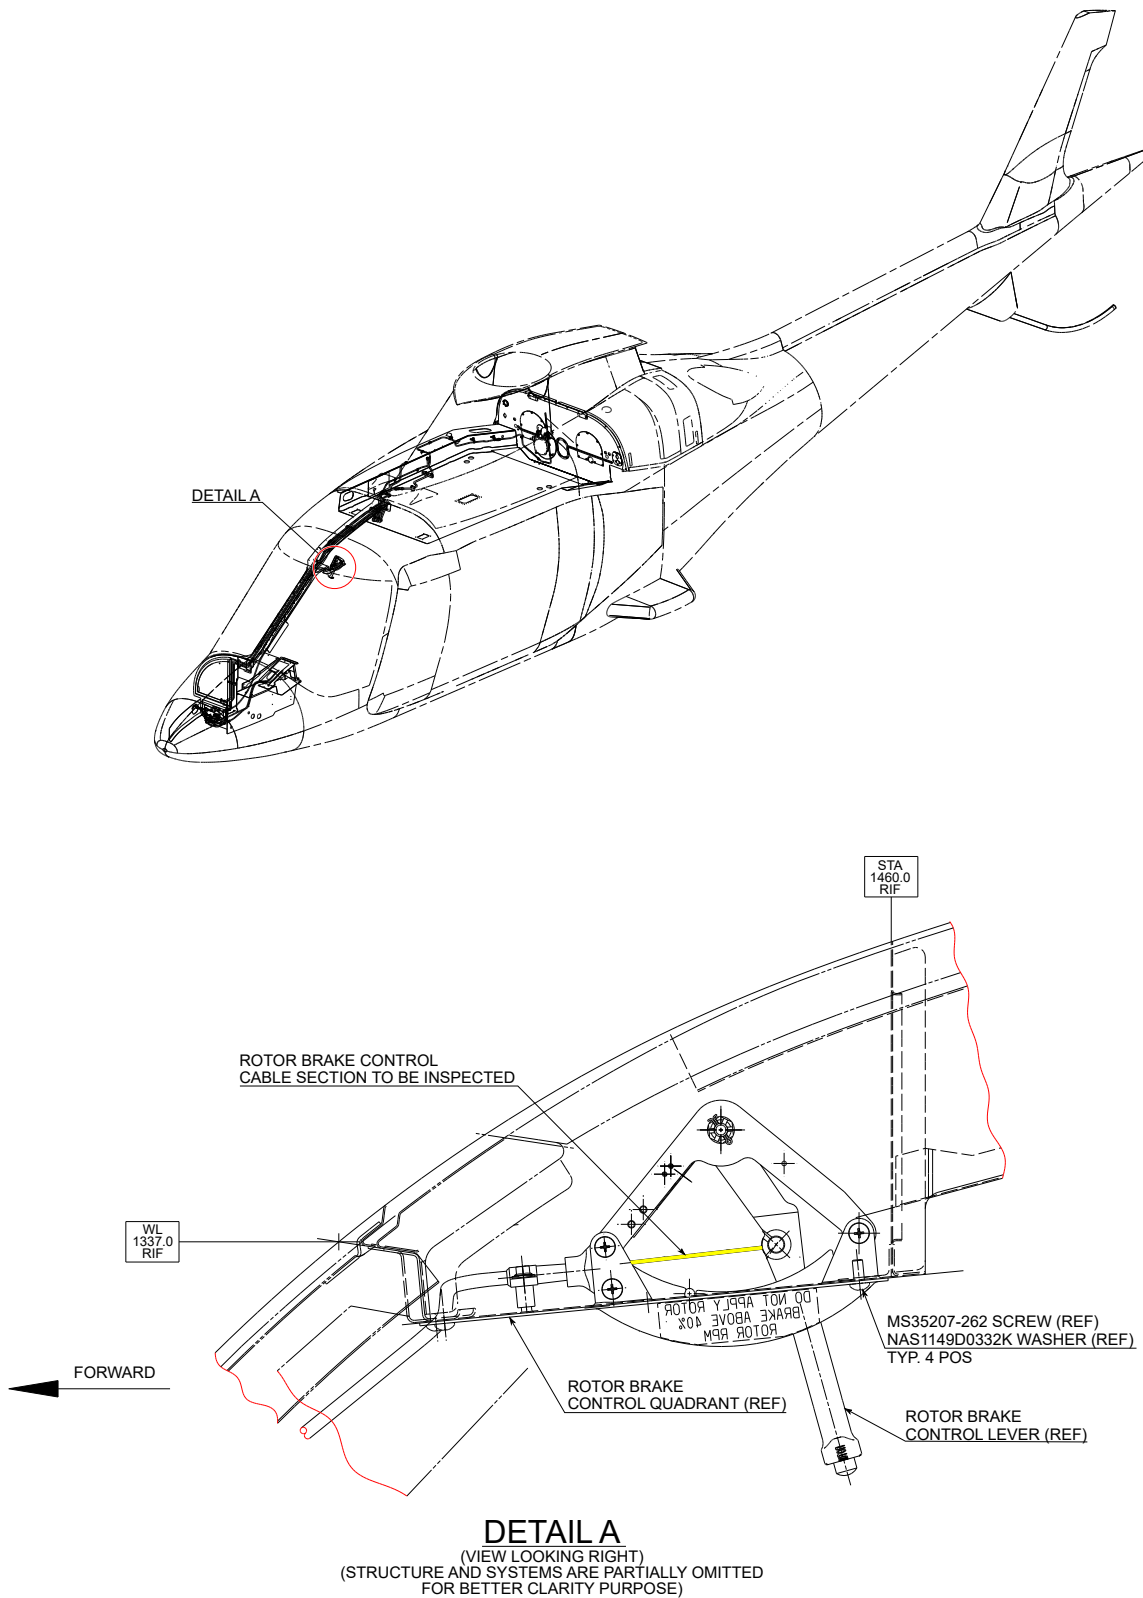

Figure 1
2. With reference to Figure 1, gain access to the cockpit and move the rotor brake control lever fully aft (rotor brake applied).
3. With reference to Figure 1 Detail A, remove n.4 screws P/N MS35207-262 and n.4 washers P/N NAS1149D0332K that attach the rotor brake control quadrant to the structure and lower the control quadrant as far as the electrical wires will permit. Retain all the hardware for later reuse.
- 4.1 With reference to Figure 1 Detail A, carefully inspect the highlighted section of the rotor brake control cable with particular attention to the interface between the cable and the cylindrical nipple.
6. With reference to Figure 1 Detail A, reinstall the rotor brake control quadrant on the structure using the hardware previously removed.